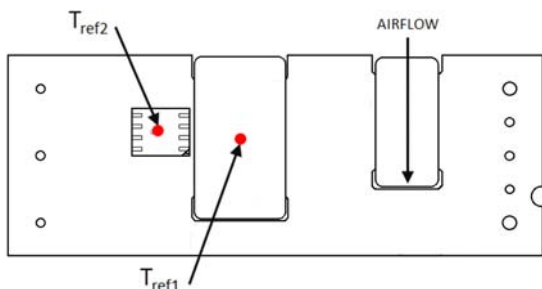

Figure 13. T_{ref} Temperature Measurement Location for open Frame Module.
To provide protection under certain fault conditions, the unit is equipped with a thermal shutdown circuit. The unit will shutdown, if the thermal reference point (Figure 13), exceeds $T_{ref1} = 133^\circ C$ or $T_{ref2} = 140^\circ C$ (typical), but the thermal shutdown is not intended as a guarantee that the unit will survive temperatures beyond its rating. The module will automatically restart upon cool-down to a safe temperature.
The thermal reference points, T_{ref1} and T_{ref2} used in the specifications for open frame modules is shown in Figure 13. For reliable operation T_{ref1} should not exceed 128°C, and T_{ref2} should not exceed 123°C.